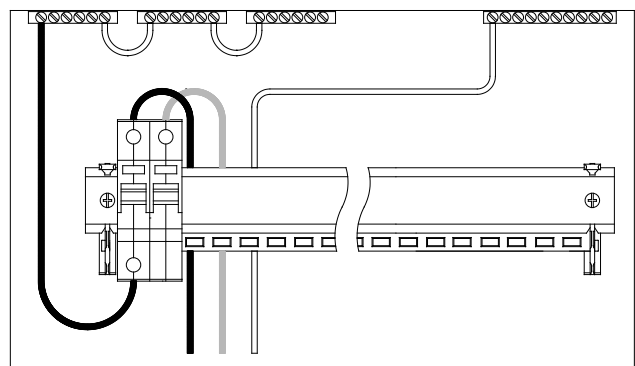
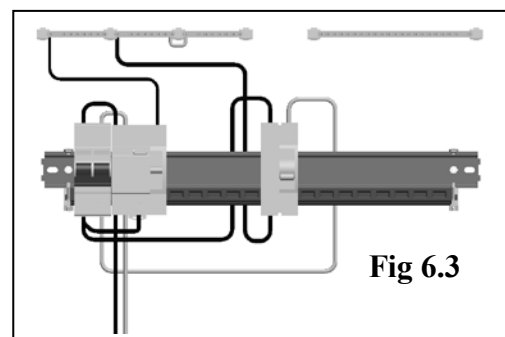

Fig 4.2
Fig 6.3
- Connect the flexible neutral connector to the main switch and the left-hand neutral bar. (Fig 4.2) (NOT DUAL RCCB CONSUMER UNITS See Fig. 6.3)